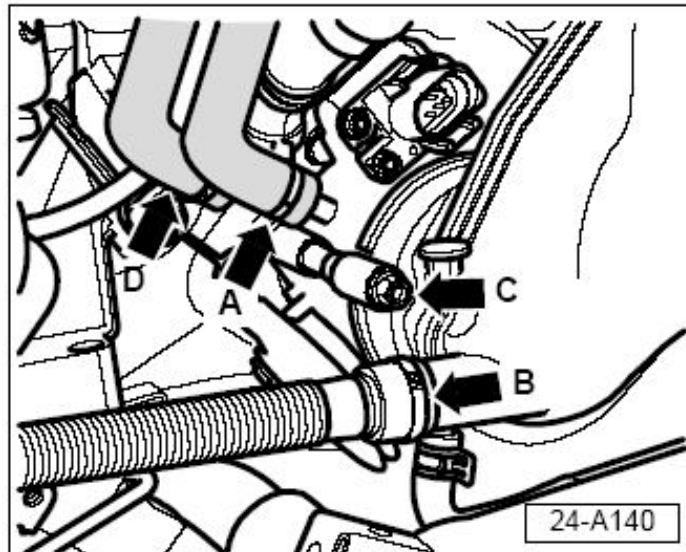

Figure 5. The canister purge regulator hose (A), the crankcase ventilation hose (B), the cap screw (C) and the vacuum hose (D).
17. Remove cap screw (Figure 5, C) from air intake elbow and slide elbow rearward.
18. Disconnect crankcase ventilation hose (Figure 5, B) from the intake air elbow and remove the elbow.
19. Disconnect vacuum hose (Figure 5, D) and evaporative emission (EVAP) canister purge regulator hose (Figure 5, A) from the throttle body.